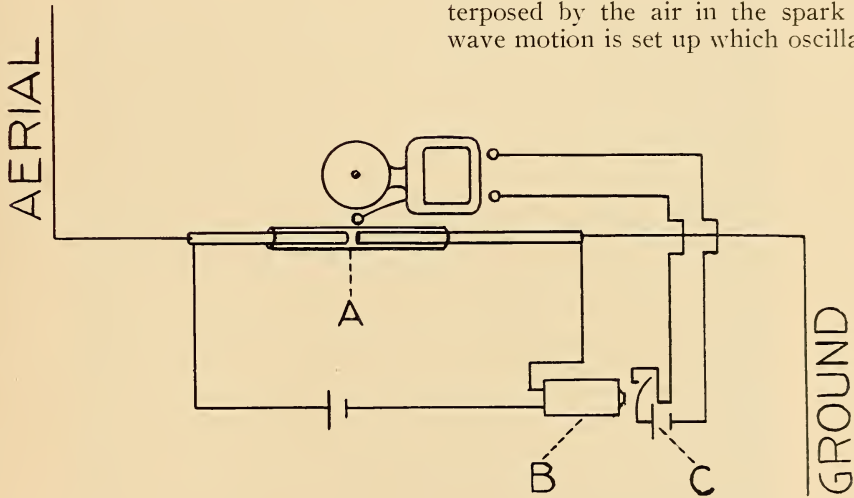

FIG. 5. RECEIVING APPARATUS COMPLETE.
relay (B) and battery as shown in Fig. 5. As some will not understand the action of a relay it may be briefly described as two magnet coils with connecting posts. The magnet coils are connected in series with the battery and coherer. In front of the coils is pivoted an armature which is attracted by the
ground wires have been erected the same as at the sending end, the connections being as shown in Fig. 5.